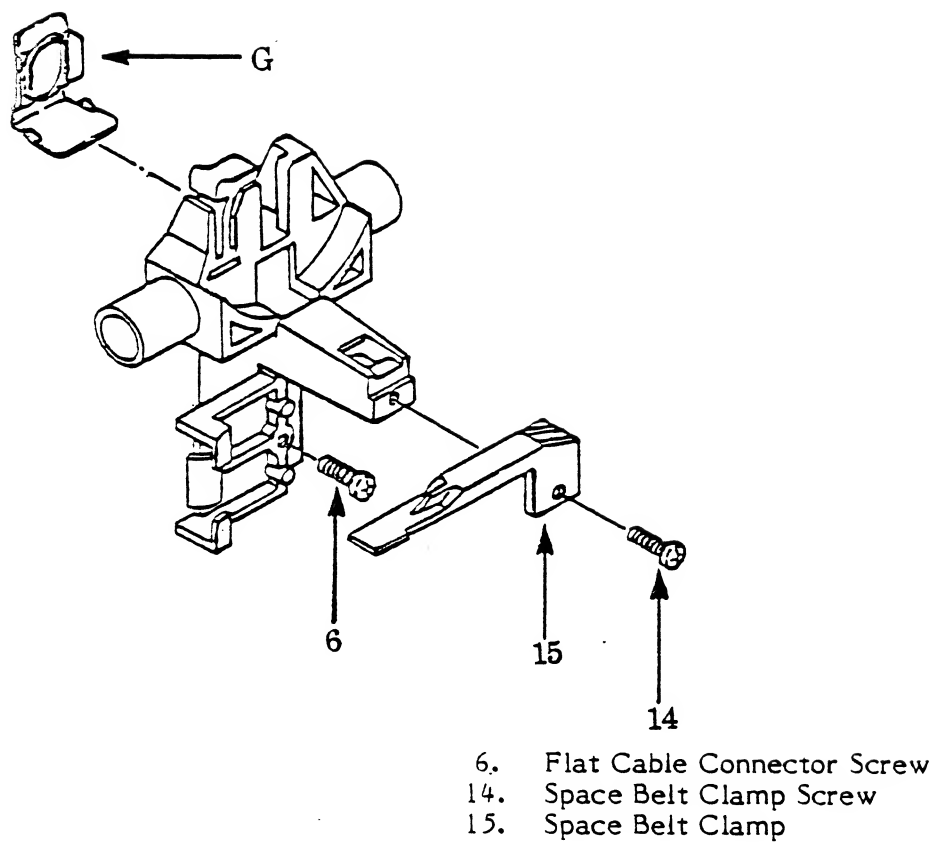

Figure 4-3. Carriage Assembly (S)
- Secure the flat cable connector with the flat cable connector screw (Figure 4-3, #6) to the carriage assembly.
- Attach the space belt clamp (Figure 4-3, #14,15) to the carriage assembly.
- Push the carriage assembly to the left. Attach the flat cable connector with the flat cable connector screw (Figure 4-3, #6) to the carriage assembly.